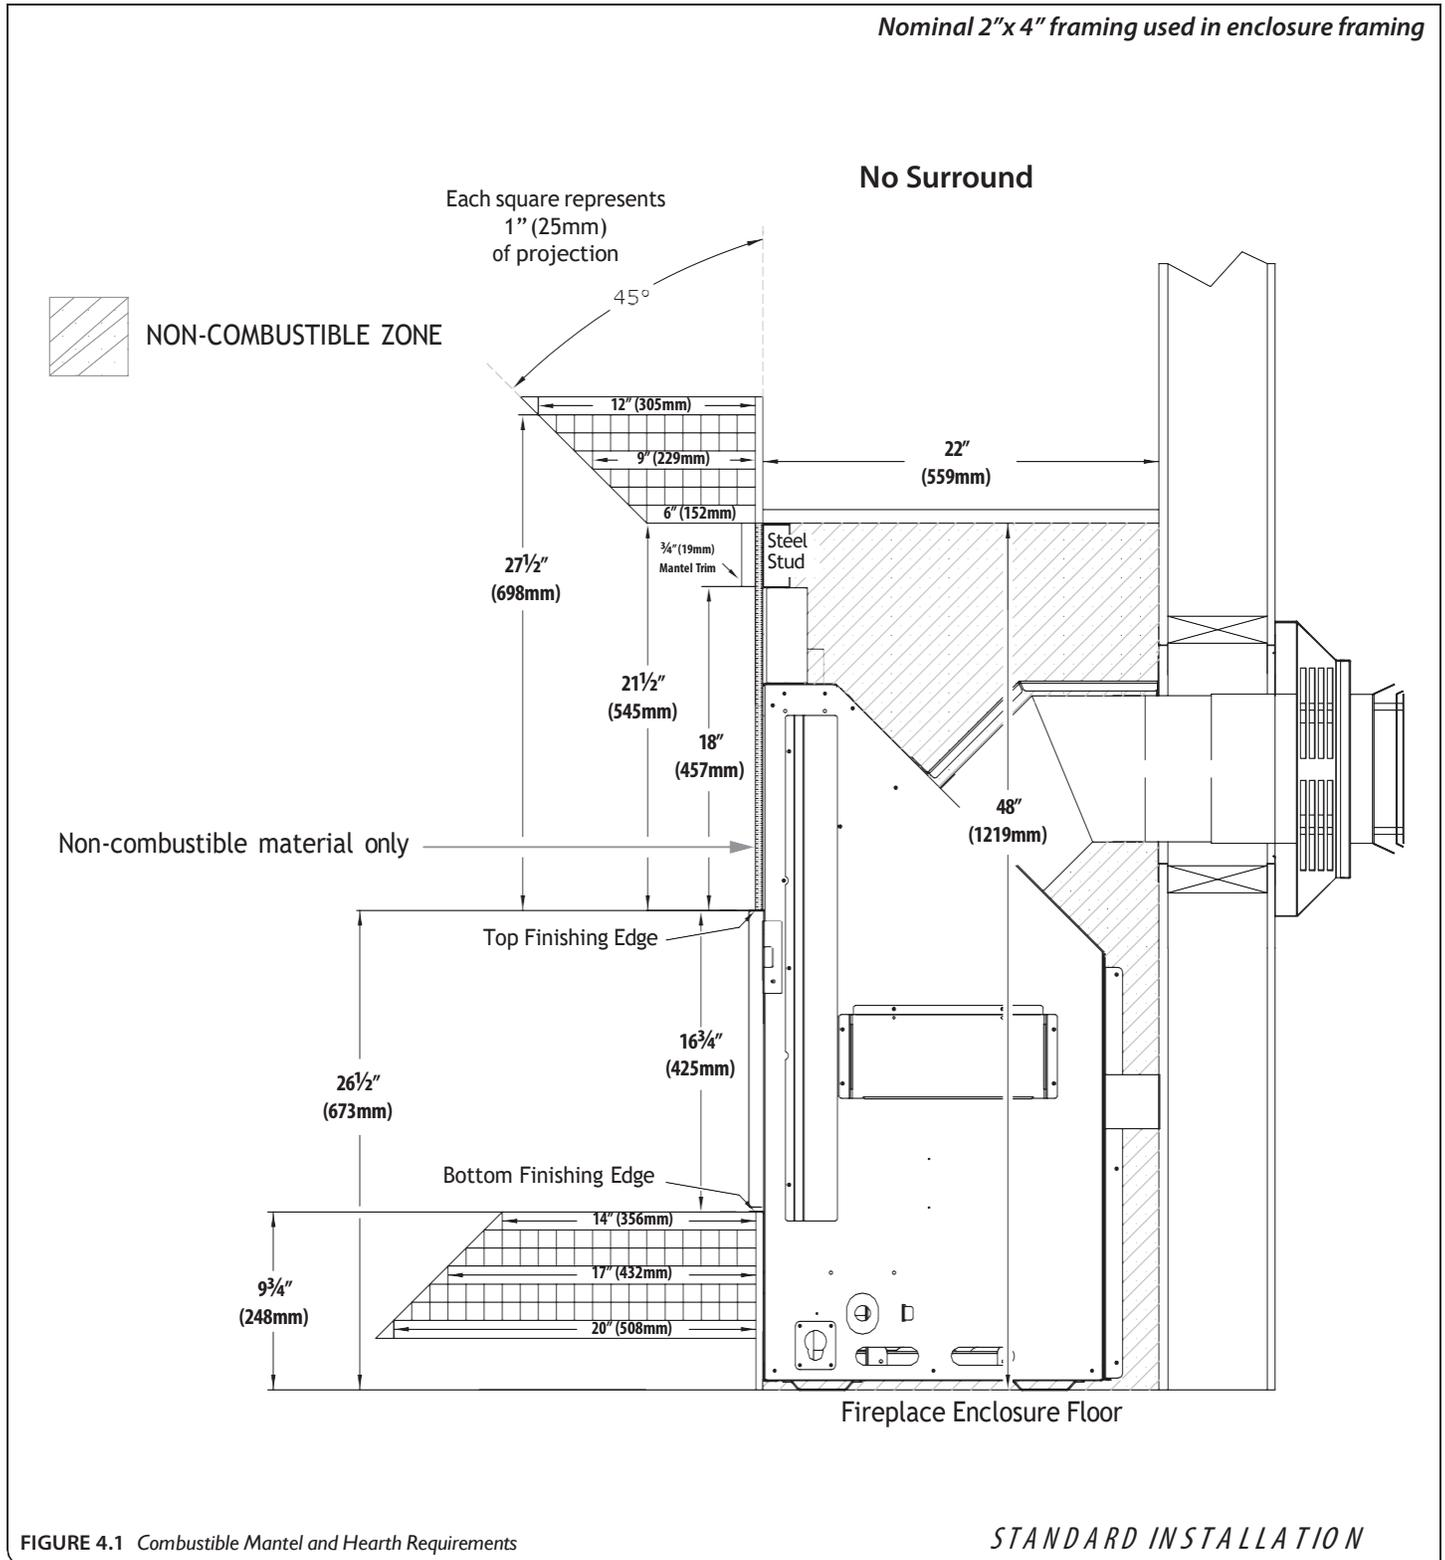

FIGURE 4.1 Combustible Mantel and Hearth Requirements
- **Combustible Mantel Projections (no surround):** As referenced in FIGURE 4.1, the 3/4" mantel trim can start at 18" (457mm) above the top finishing edge with a 6" (152mm) mantel starting at 21-1/2" (545mm) above the finishing edge. Mantel projections can increase 1" (25mm) of depth for every 1" (25mm) of height starting at the 6" (152mm) mantel.
- **Combustible Hearth:** As referenced in FIGURE 4.1, the bottom of the finishing edge can be flush with the top of the hearth if you are not using any optional surrounds. Refer to section 4.3 on page 36 if installing with optional surround.